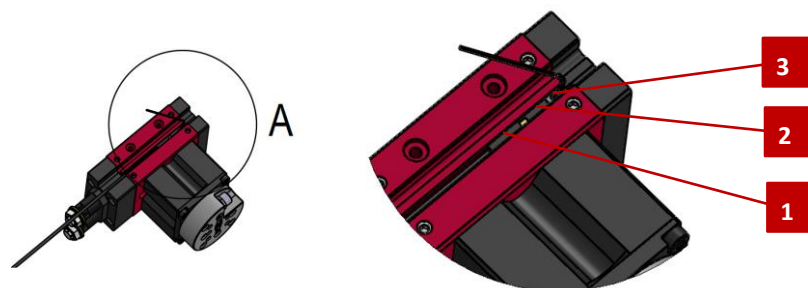

Fig. 19 Illustration of magnetic field sensors
1. Insert the sensor (Fig. 19, 1) with the mounted slot nut into the C-slot.
6. Securely fasten the sensor with the fastening screw (Fig. 19, 3).